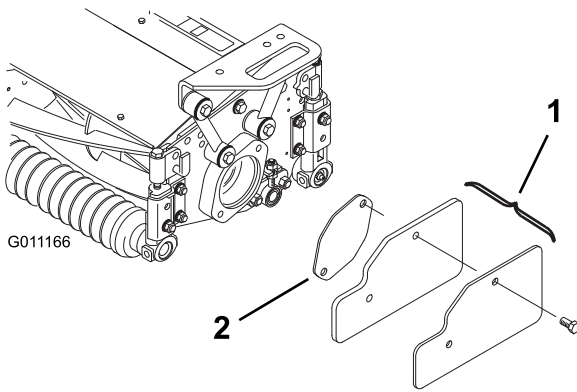

Figure 23
2. Remove the weights and gasket (Figure 23) from the inside end of the right hand cutting unit.